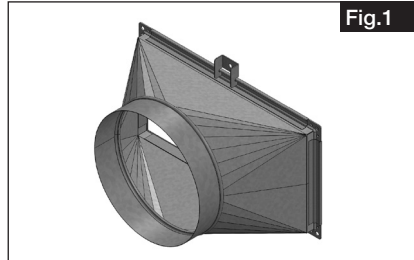

Fig.1
- The sealing lip of the adapter seals directly against the AIR1 unit flange (see Fig. 1).
- Fasten the adapter to AIR1 unit with holding brackets according to Fig. 1 (if brackets are required, see table).